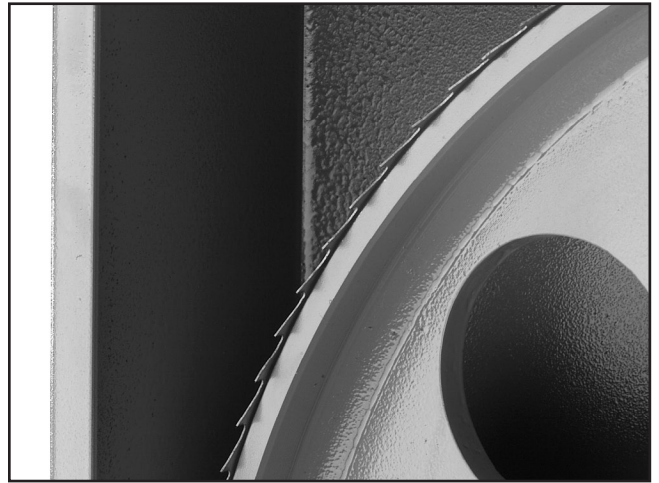
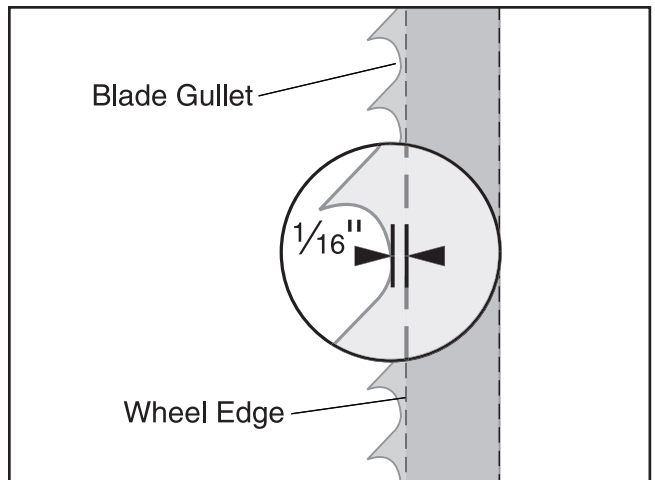

Figure 14. Blade positioned on wheel.
Figure 15. Illustration of proper blade position.
5. Position the blade on the wheels so that the tooth gullet is approximately $\frac{1}{16}$ " over the edge of the wheel, as shown in **Figure 14**. Also, see the blade illustration in **Figure 15** for more details.